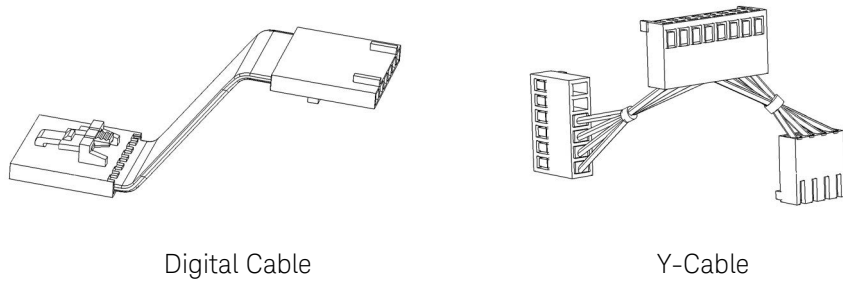

Figure 4-3 Digital and Y-cables.
- 4** Next, connect the 6-pin connector on the supplied Y-cable assembly (Figure 4-3) to the AC power supply 6-pin connector, and then connect the 4-pin connector on the cable to the motherboard 4-pin connector where the jumper cable was removed in step 2.
- 6 Connect one end of the supplied (digital) 6-pin ribbon cable (Figure 4-3) to the 6-pin connector J1200 (next to the 4-pin connector J1000 on the motherboard).